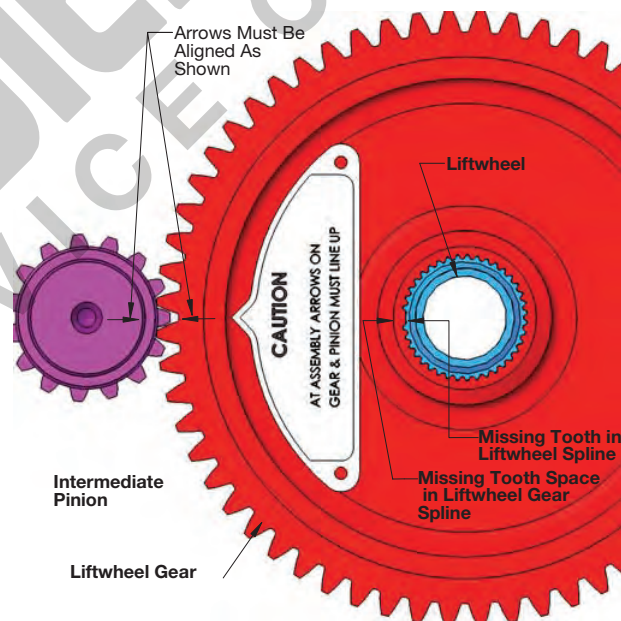

Figure 21. Non-Circular Gearing
**NOTE:** These parts have their splines keyed in such a way that they will go together only one way. See Figure 21.
3. Check operation of gear train by rotating the pinion four (4) complete revolutions; liftwheel gear will turn one (1) complete revolution and the arrows will again be aligned as shown. If the arrows do not align or there is binding between the gear teeth, repeat the above steps.